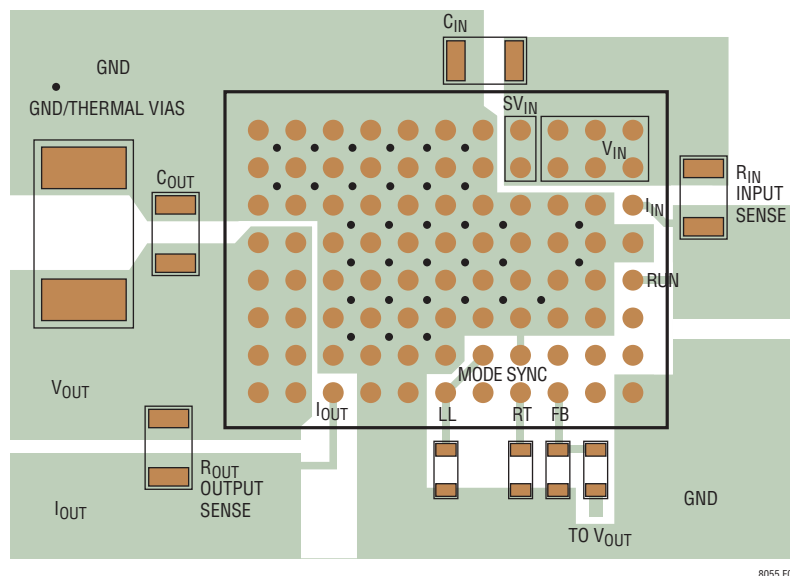

Figure 6. Layout Showing Suggested External Components, GND Plane and Thermal Vias
Most of the headaches associated with PCB layout have been alleviated or even eliminated by the high level of integration of the LTM8054. The LTM8054 is nevertheless a switching power supply, and care must be taken to minimize EMI and ensure proper operation. Even with the high level of integration, you may fail to achieve specified operation with a haphazard or poor layout. See Figure 6 for a suggested layout. Ensure that the grounding and heat sinking are acceptable.
8. Use vias to connect the GND copper area to the board's internal ground planes. Liberally distribute these GND vias to provide both a good ground connection and thermal path to the internal planes of the printed circuit board. Pay attention to the location and density of the thermal vias in Figure 6. The LTM8054 can benefit from the heat sinking afforded by vias that connect to internal GND planes at these locations, due to their proximity to internal power handling components. The optimum number of thermal vias depends upon the printed circuit board design. For example, a board might use very small via holes. It should employ more thermal vias than a board that uses larger holes.